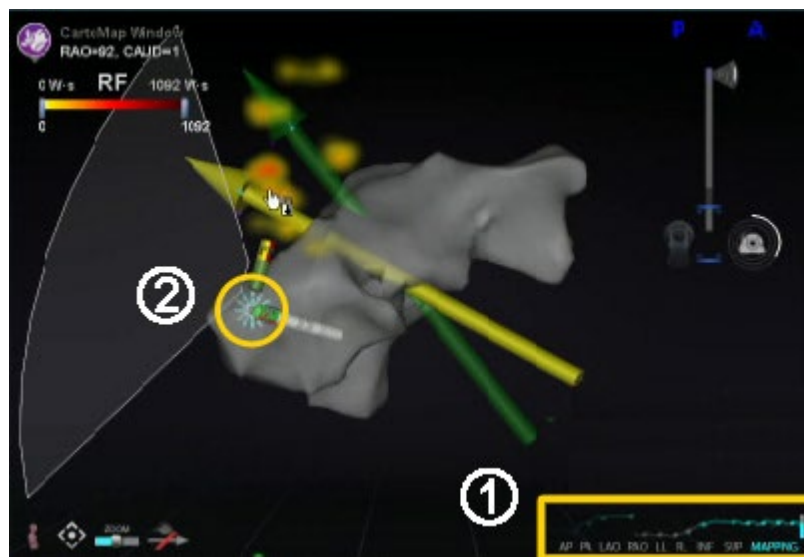

Figure 7. Contact graph on *Navigant* display (gold box outline)
When the catheter is in contact with the cardiac wall, the *Navigant* screen displays a “starburst” effect, as indicated (②) in **Figure 7**. The *Navigant* screen displays a contact graph in the lower right corner (① in **Figure 7**) to provide a history of cardiac contact.
Note: The gold circle and rectangle in Figure 7 are present for emphasis. They do not appear on the *Navigant* screen.